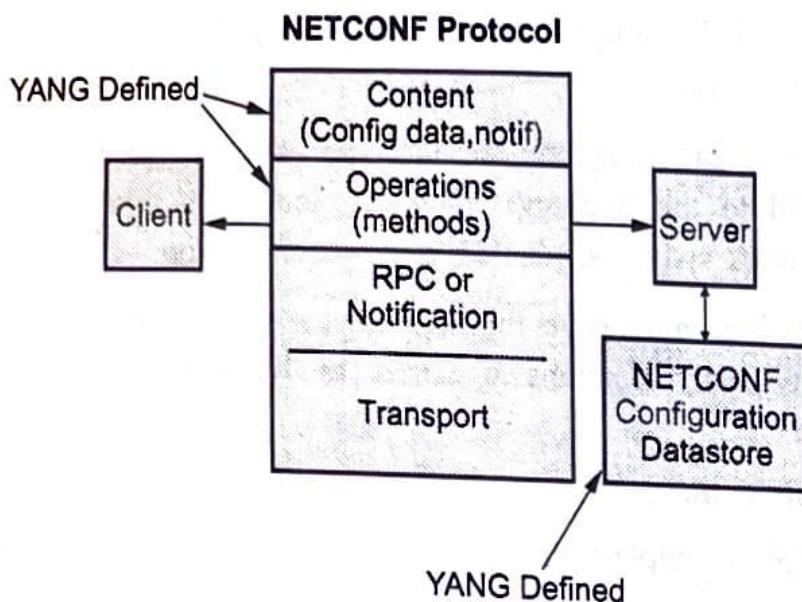

Fig. Q.18.1 NEFCNF protocol layers
- Fig Q.18.1 shows NEFCNF protocol layers.